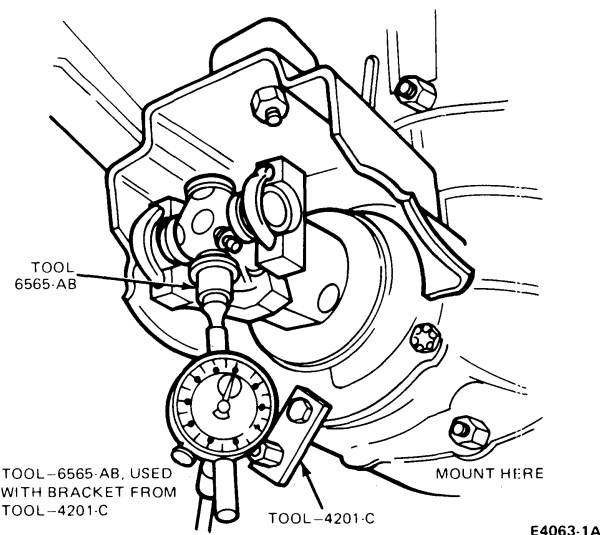

FIG. 11 Cross-Shaft Runout Check
Rotate the companion flange 90 degrees and position the dial indicator adapter on the machined end of the exposed journal (Fig. 11). **Be sure the end surface of the journal is perpendicular to the adapter.** This requires that the cross-shaft be moved fore and aft on the flange bearing cups. **Note the point at which the indicator hand reverses direction.**
8. With the indicator at zero, carefully retract the dial stem and rotate the flange 180 degrees. Rotate the cross-shaft 180 degrees on the flange bearing cups to position the exposed journal under the dial indicator adapter. Rock the cross-shaft fore and aft and the companion flange side-to-side to establish the point at which the indicator hand reverses direction. This will determine the drive shaft universal cross-shaft runout. Record this reading (Fig. 11).
10. To determine the total (combined) companion flange runout, use the combined runout guide (Fig. 12). With an indicated 0.003-inch flange bearing cup runout and an indicated 0.004-inch universal cross-shaft runout (Fig. 11), the combined companion flange runout will be 0.005-inch (Fig. 12).